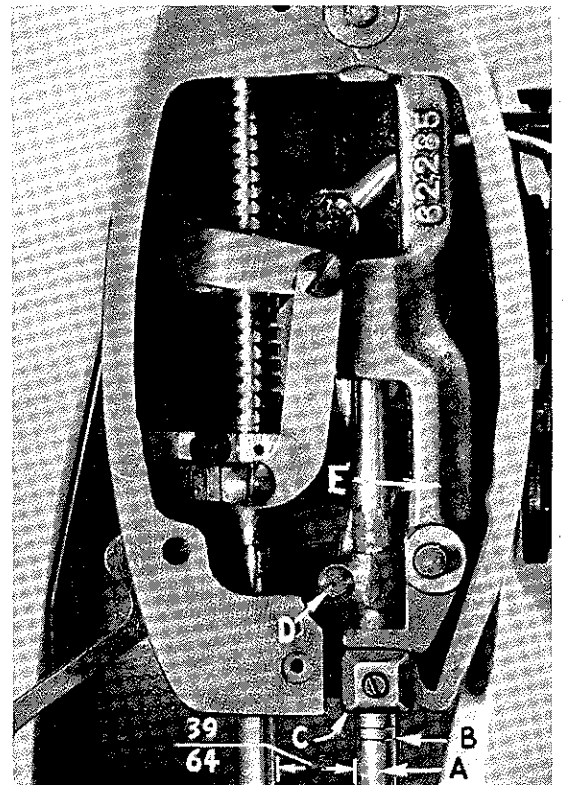
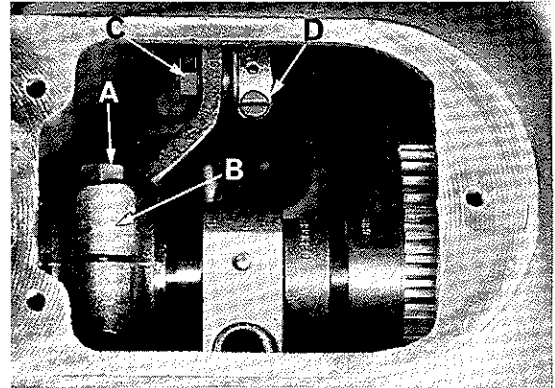

Fig. 7
Fig. 8
The setting of the needle bar (A, Fig. 7) to the proper needle bar height timing line will, in practically all cases, produce the optimum location of the needle loop with respect to the hook point for proper loop pick up.
A maximum "down" position of the needle bar may be established by turning the handwheel in the operating direction until the crank pin and the needle bar connecting link align perpendicular behind the needle bar. (Looking into end as shown by Fig. 7, pin and link cannot be seen).
Needle bar height adjustment is governed by the length of the needle used. Two sets of timing lines (B, Fig. 7) are engraved on every needle bar to assure accurate timing. The upper pair is used when Type 180 GXS or 180 GYS "short length" needles are specified and the lower pair is used with needle Type 182 GA "long length".
To position the needle bar in relation to the presser bar, first set the needle bar at the bottom of its stroke. Then, remove the top reservoir cover at the right end of the machine. Loosen clamp nut (A, Fig. 8) of the feed driving lever (B) and swing the needle bar frame (E, Fig. 7) forward or backward in the line of feed until the factory specified distance of $39/64$ to $5/8$ inch is obtained between the needle bar and the presser bar. (Gauge No. 21227 BL is available for measuring this adjustment). After needle bar meets required setting, tighten clamp nut (A, Fig. 8) and re-assemble cover.
If a finer adjustment is necessary, loosen nut (C, Fig. 8) and move ball joint (D) forward or backward as required. Tighten nut (C).
Visually check position of the needles. Make sure their spots face their respective hooks. Now, turn handwheel in operating direction to obtain a maximum "down" position of the needle bar. When this has been reached, continue to turn until lower timing line (of the pair selected) (B, Fig. 7) is flush with the bottom of the lower needle bar bushing. At this time, the hook point should be approximately 1/32 inch above needle eye.